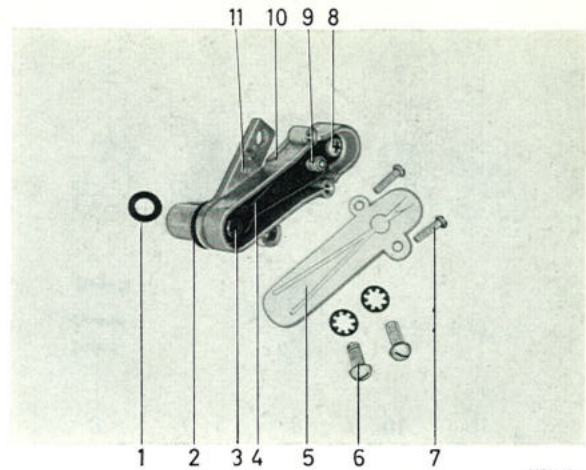

Fig. 2-99. Temperature compensator
3. Should there be a powerful drop in the idling speed during idling for a lengthy period, especially when the weather is warm, check the function of the temperature compensator by removing the plastic cover and pressing in the valve (3, Fig. 2-99). This should move under very light pressure and return to its position without jamming. This applies at a temperature above 70° F. The valve starts opening at 50° F.
The temperature compensator is replaced complete. It is removed from the carburettor by unscrewing the screws (6, Fig. 2-99). Take out the old seal (1) from the carburettor and fit a new one. Place a new seal (2) on the temperature compensator and fit the compensator.
**N.B.** The temperature compensator is marked "120°" for the B 20 A engine and "60°" for the B 20 B engine (see 11, Fig. 2-99).